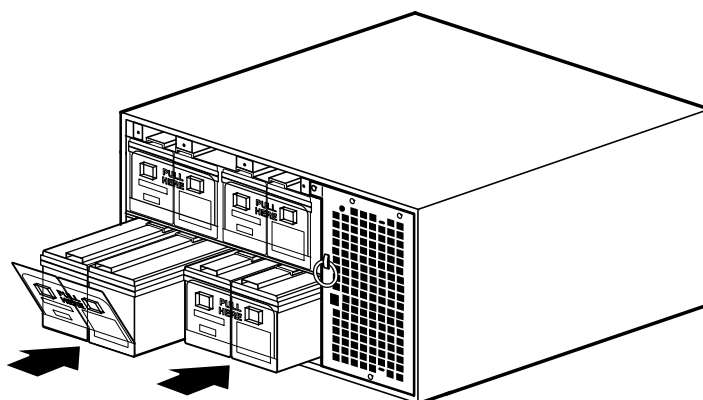

Figure 27. Installing the UPS Battery Trays
3. Slide the battery trays into the cabinet (see Figure 27). Verify that each tray is properly aligned before sliding the tray in.